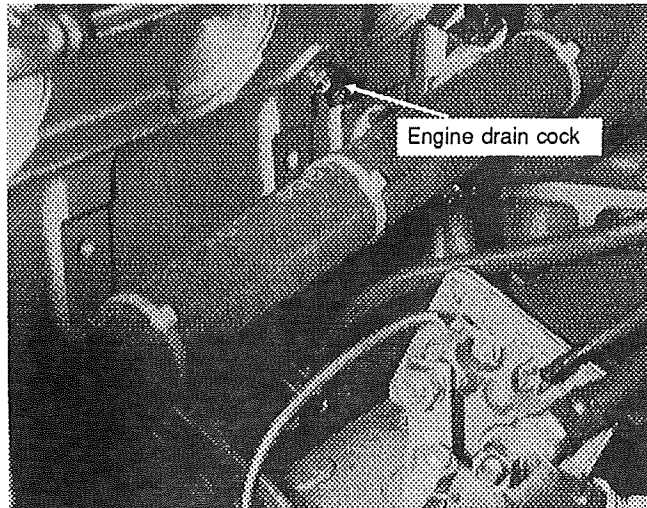

FIG. 10
8. Open both engine side drain cocks (see fig. 10 et 11).